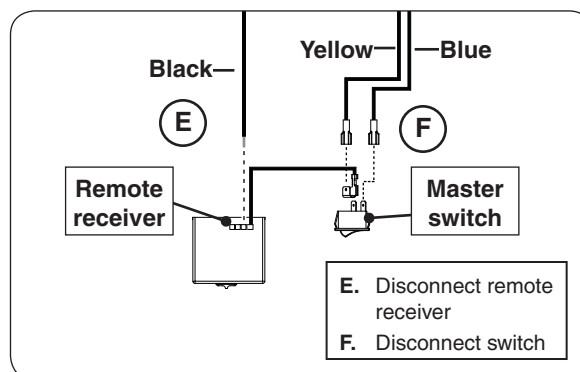

Fig. 46-3 Disconnect receiver & switch wires
3. Locate the remote receiver on the control panel, remove the 2 hex screws using a  $\frac{1}{4}$ " nut driver, then pull the receiver (and bracket) out of the control panel. Disconnect the receiver and switch wires as shown in Fig. 46-3, E-F. The valve box can now be pulled away from the unit.